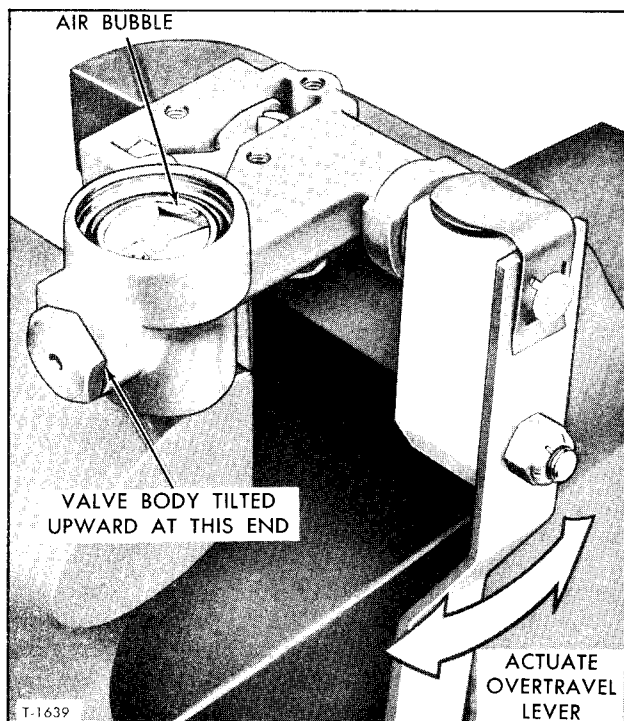
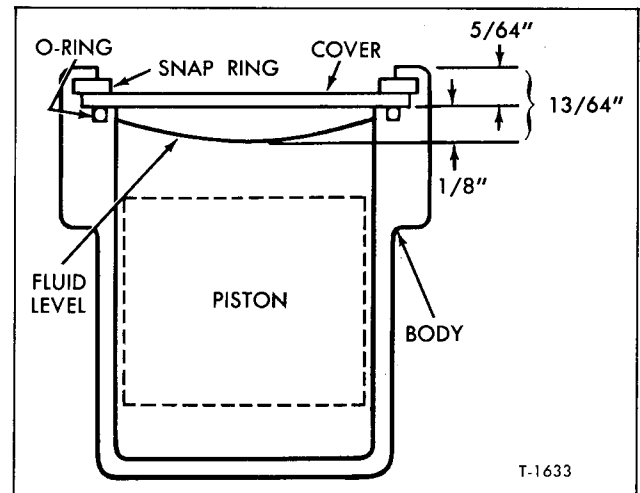

Figure 29—Venting Air from Silicone Fluid
Figure 30—Silicone Fluid Level
2. Pour 6.0 cc \pm 0.25 cc of Silicone fluid (1000 Centistokes viscosity at 25°C) into delay piston bore. With valve body tilted slightly as shown in figure 29 carefully operate overtravel lever fore and aft to vent air from fluid. When all air has been expelled from piston pin cavity, check fluid level using depth gauge as shown in figure 30.